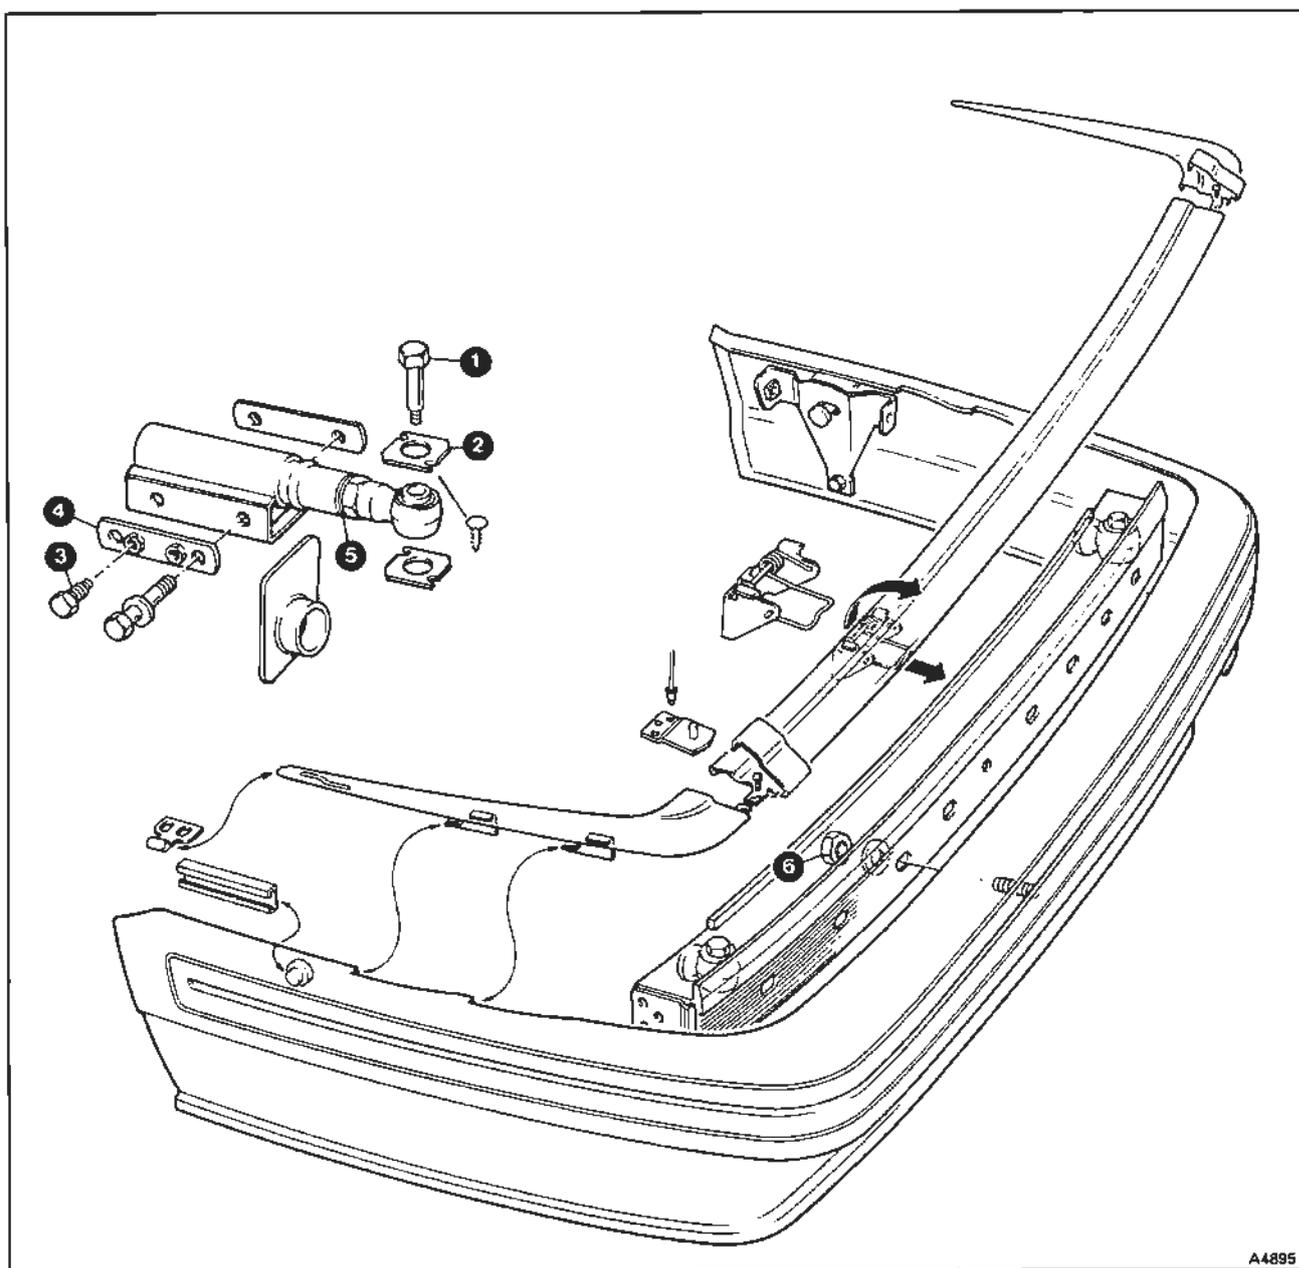

Fig. 8 Rear bumper assembly
(see fig. 8)
Rear bumper – To renew mounting brackets (see fig. 8)
Rear bumper assembly – To dismantle and assemble (see fig. 8)
If necessary the applicator nozzle should be trimmed to produce the shape indicated in figure 8, to produce a bead of adhesive approximately 10 mm (0.40 in) wide and 12 mm (0.48 in) high.
8. Apply a second bead of adhesive to the edges of the moulding which are bonded to vertical surfaces (see fig. 8), in order to ensure a watertight joint with the body.